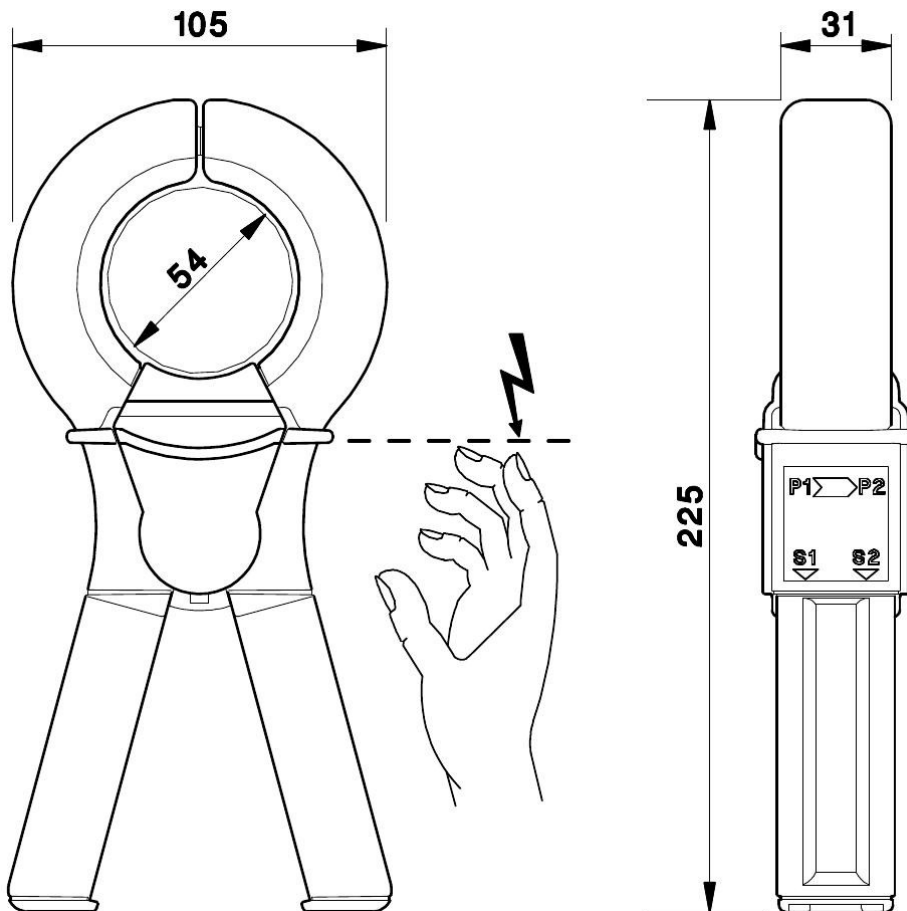

Figure 2.59: Dimensions in mm and protection against electric shock
- For protection against electric shock please refer to Figure 2.59 [→71]